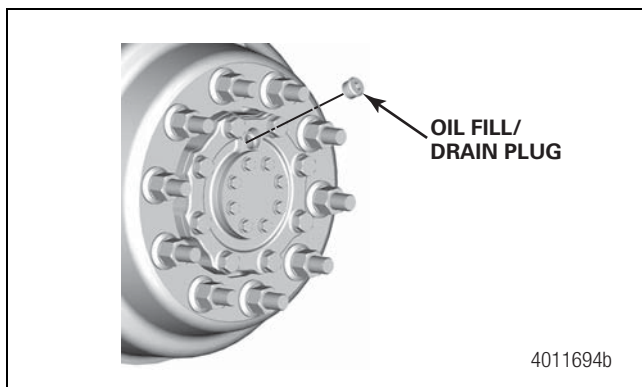

Figure 10.1
1. Rotate the hub so the fill/drain plug is at 12 o'clock position. Figure 10.1.